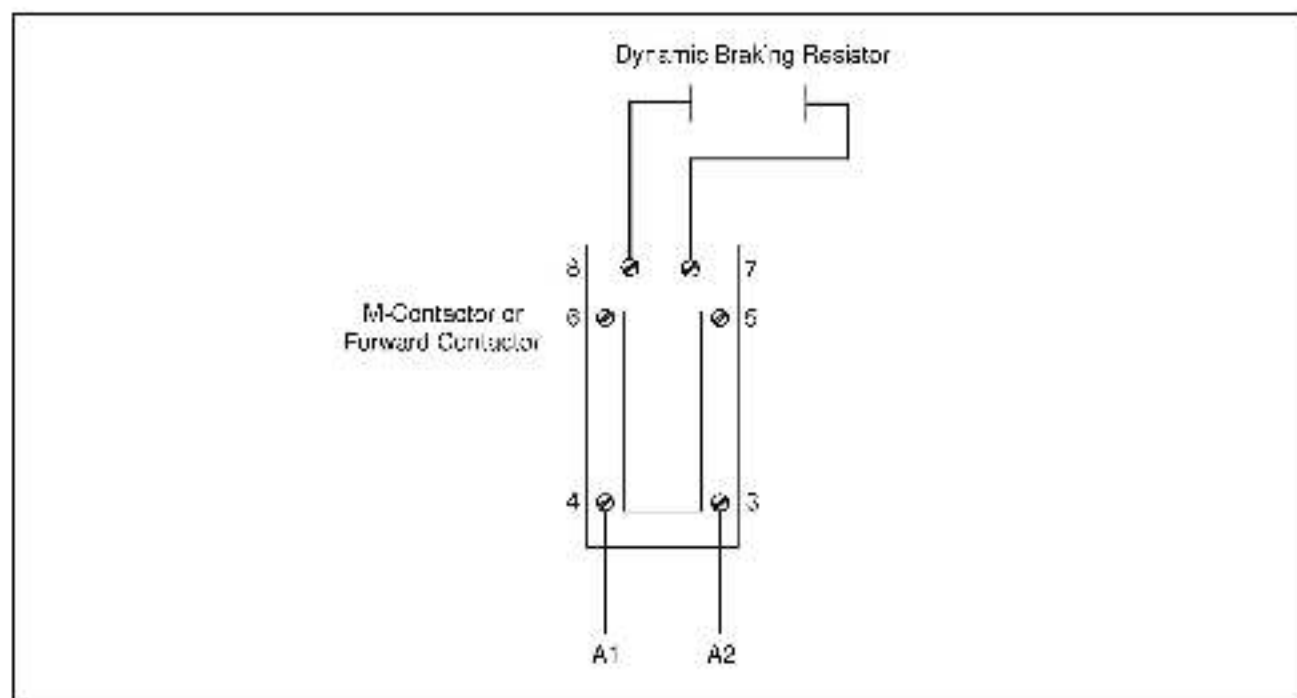

Figure 1 – Dynamic Braking Resistor Connections for Regenerative FlexPak Plus Drives and Non Regenerative FlexPak Plus Drives Without a Reversing Contactor
- Step 5. **For all regenerative FlexPak Plus DC drives, and for non-regenerative FlexPak Plus DC drives without a Reversing Contactor:** Connect the dynamic braking resistor between the normally closed (NC) contacts of the drive's M-contactor (terminals 7 and 8). This places the resistor across the motor's armature (A1 and A2) when the M-contactor is de-energized. Refer to figures 1 and 2.